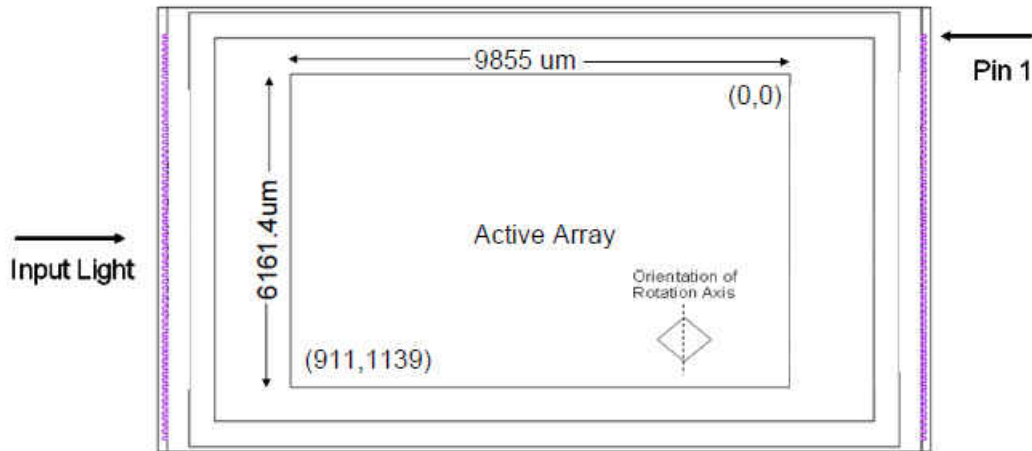

Figure 7-4. DLP4500NIR Micromirror Active Area
- (1) The mirrors that form the array border are hard-wired to tilt in the -12° (“Off”) direction once power is applied to the DMD (see Micromirror Array, Pitch, and Hinge-Axis Orientation and Micromirror Landed Positions and Light Paths).
- (2) See Micromirror Array, Pitch, and Hinge-Axis Orientation.
- (3) See Micromirror Active Area in Figure 7-4.